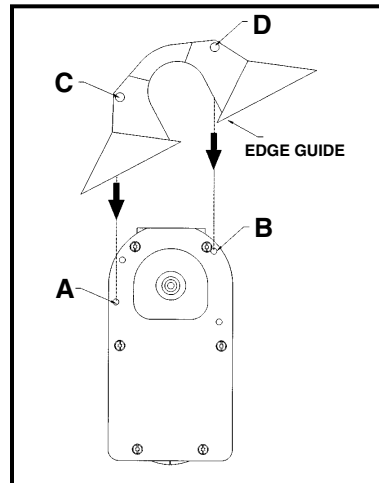

Fig. 5
Align the holes, in the base plate, (A) and (B) Fig. 5, with the holes in the edge guide, (C) and (D) Fig. 5, and insert the two screws, and tighten securely.